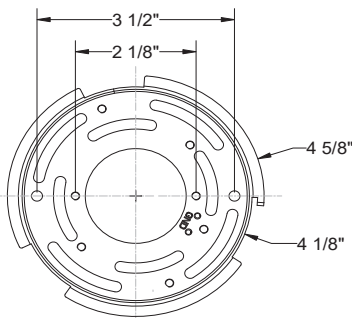

Fig. 2 Wiring
CONNECTING THE WIRES (Fig. 2)
6. Cut the extra wire. Connect the driver's input wires to junction box wires as shown in Fig. 2, making sure that all wire connectors (A) are secured. If your outlet box has a green or bare copper ground wire, connect the fixture's ground wire to it. Otherwise, connect the fixture's ground wire directly to the mounting plate using the green screw provided. After wires are connected, tuck them carefully inside the junction box.
7. Place the fixture over the mounting ring and secure with mounting screws (B).